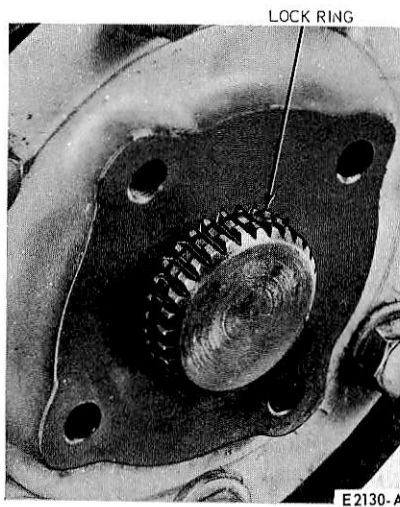

FIG. 4 Access to Lock Ring
2. Remove the retaining lock ring (Fig. 4).